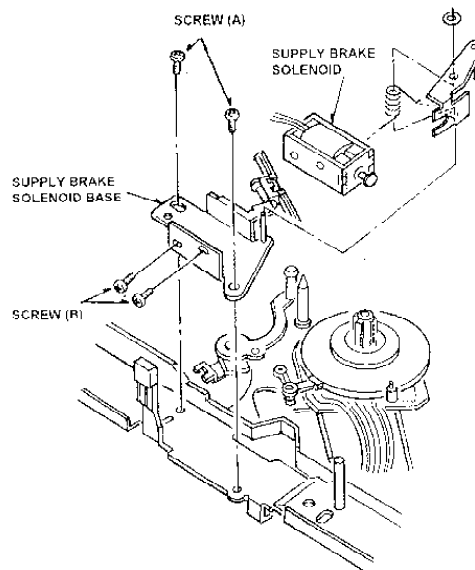

Fig. 6-5-1 Removal of Supply Brake Solenoid
- 5. Unscrew the 2 screws (A) and remove the Supply Brake Solenoid Base Unit as shown in Figure 6-5-1.**